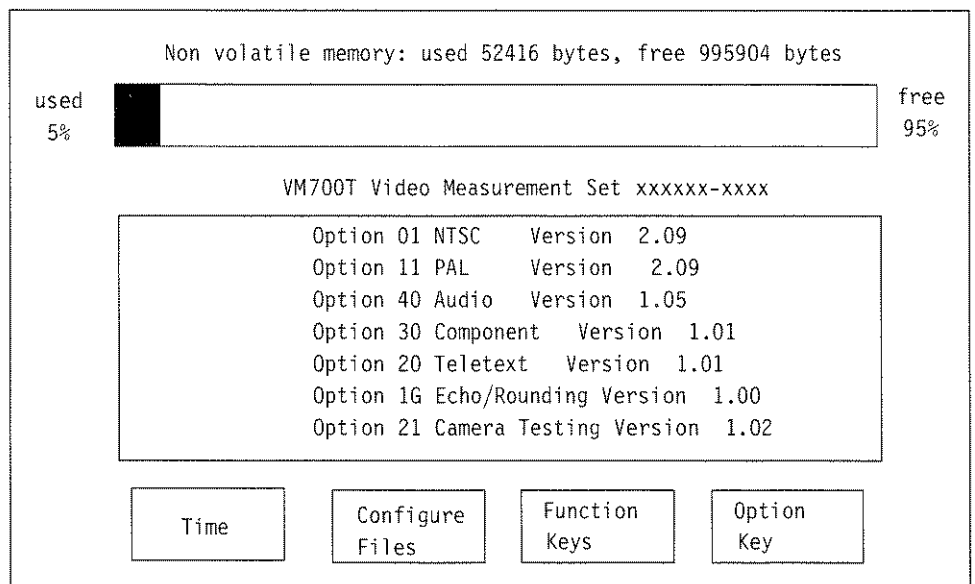

Figure C-1: Main configure menu
1. Press the **Configure** front panel button to display the menu shown in Figure C-1.